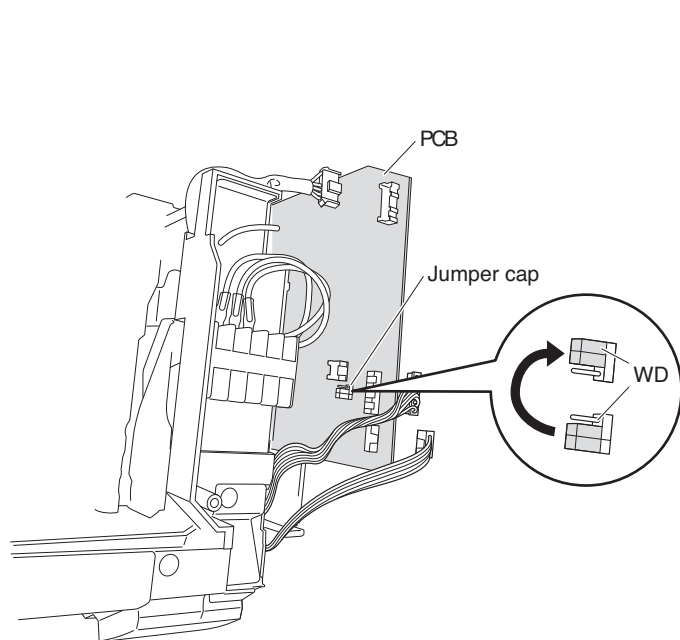
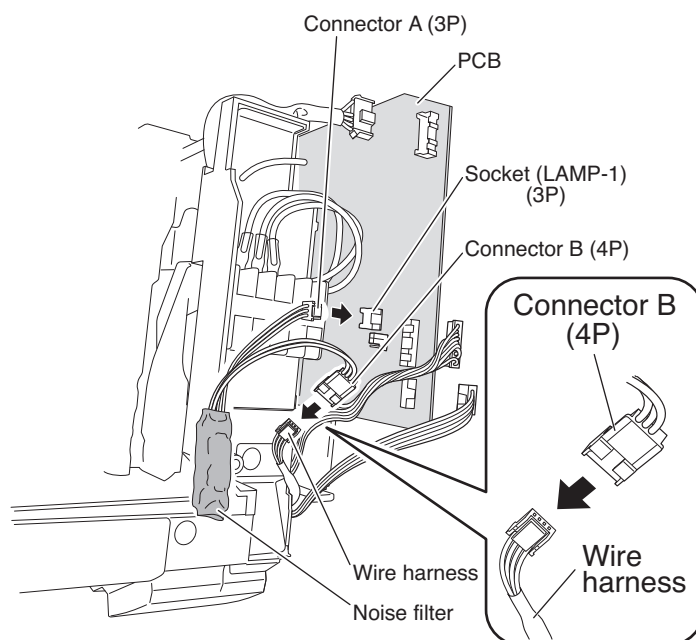

Fig. 4
Fig. 5
- (5) Move the jumper cap to WD (Fig. 4), then connect the noise filter Connector A (3P) to the PCB socket (LAMP-1) and connect the other noise filter Connector B (4P) to the wire harness connector (4P) on the wired remote controller. (Fig. 5)